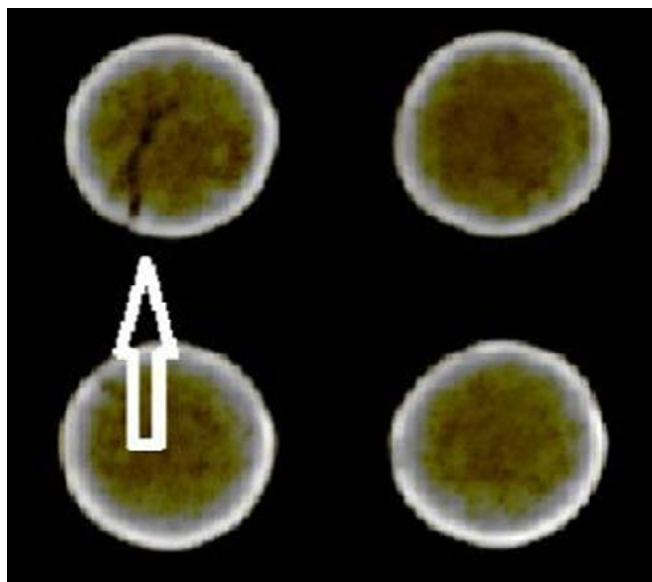

Figure 2.
- Micro hairline crack in a BGA ball (Figure 2)